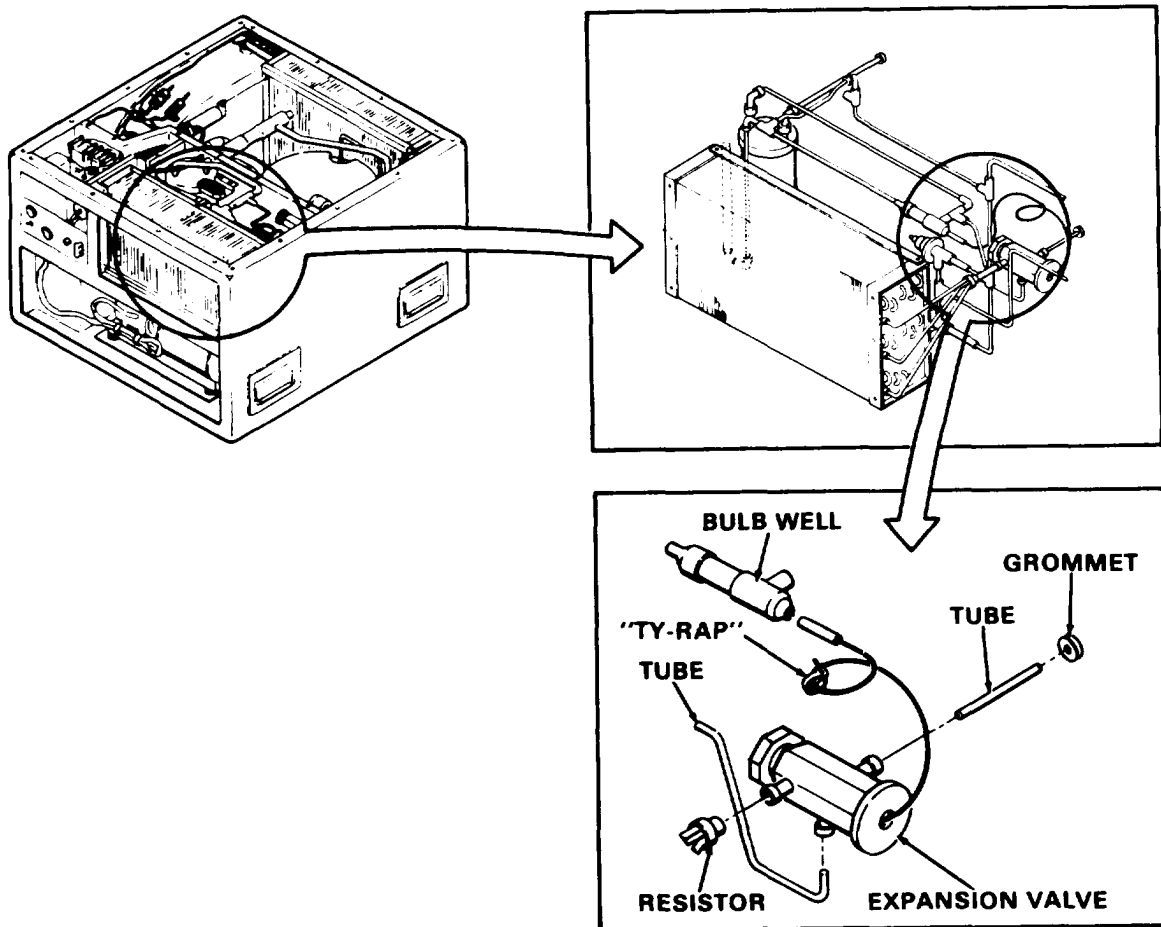

Figure 5-9. Primary Thermal Expansion Valve
- (1) Refer to paragraph 6-3 and discharge the refrigerant system.
- (2) Refer to paragraph 4-18 and remove the top covers.
- (3) Refer to figure 5-9 . Soften the mastic in the bulb well and remove the expansion valve bulb. Take care to avoid damaging the capillary tube.
- (4) Remove the expansion valve clamp.
- (5) Unsolder the expansion valve from the refrigerant system tubing.
- (1) Refer to figure 5-9 and mount the expansion valve against the compartment wall using the mounting clamp.